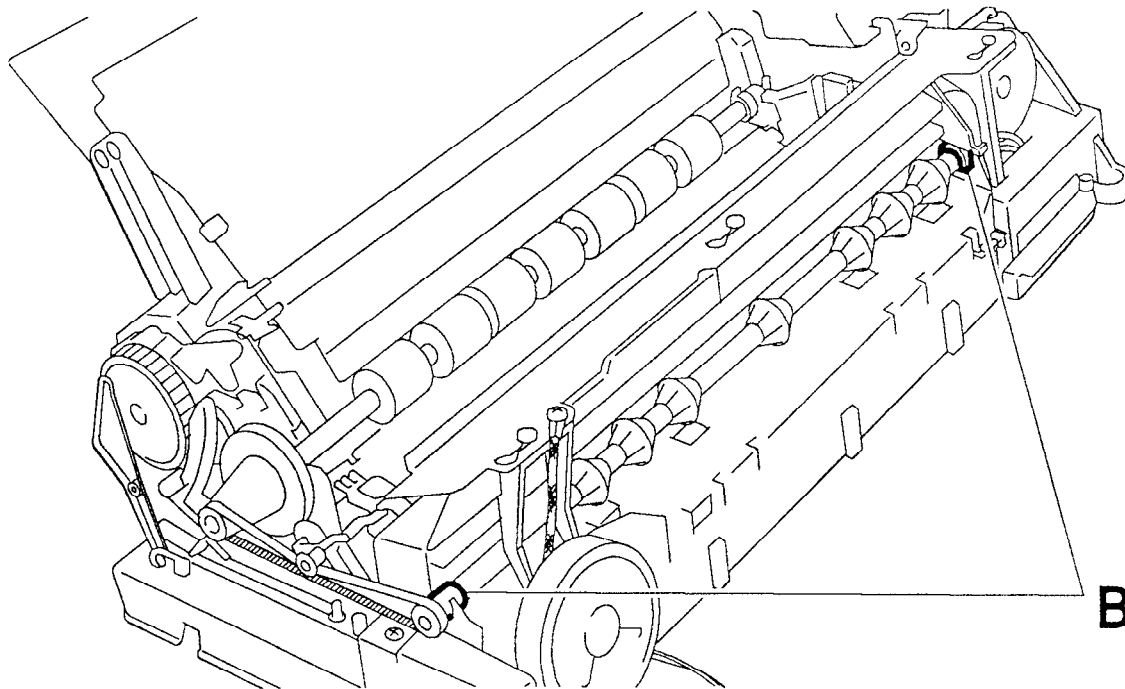

Fig. 7-41
**Caution** During re-assembly, ensure that bushings **B** of the forward roller shaft have not come out of their housings (Fig. 7-41):